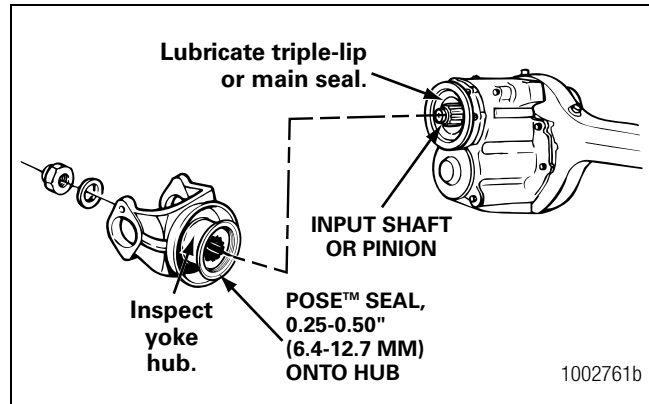

Figure 5.108
- Apply axle lubricant to the hub of the yoke or flange. Figure 5.108.